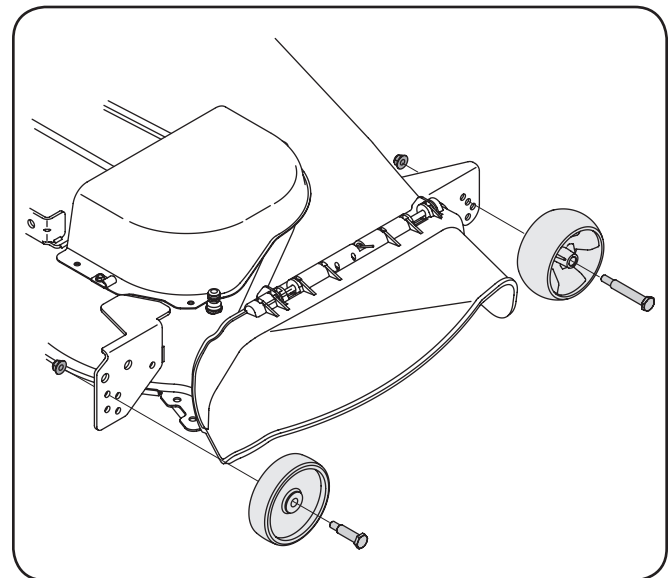

Figure 3-4
- b. Remove the front and rear gauge wheels by removing the lock nuts and shoulder screws which secure them to the deck. See Figure 3-4.